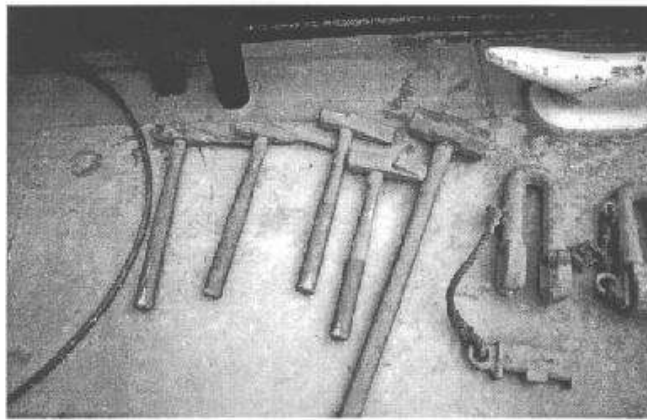

Figure 3-3 Key Punches, Blacksmith Chisel, Blacksmith Hammer, Sledge Hammer, Modern Shackle
- 6 Blacksmith's Chisel. This hammer is flat on one end and beveled on the other. It is sometimes called a split key hammer. It is used to spread the key, a large flat cotterpin, that holds a shackle pin in the shackle. It provides the best means of putting the required 45 degree separation in the split key. It is easiest to turn the shackle on deck, placing the blacksmith chisel into the key opening and hitting it with a blacksmith's hammer (See **Figure 3-3.**)
- 7 Blacksmith's Hammer. A large hammer, weighing approximately two and a half pounds, flat on both ends. This hammer is used with the blacksmith's punch, chisel, and split key punch. Those tools are lined up with the appropriate item and struck with the blacksmith hammer (See **Figure 3-3.**)